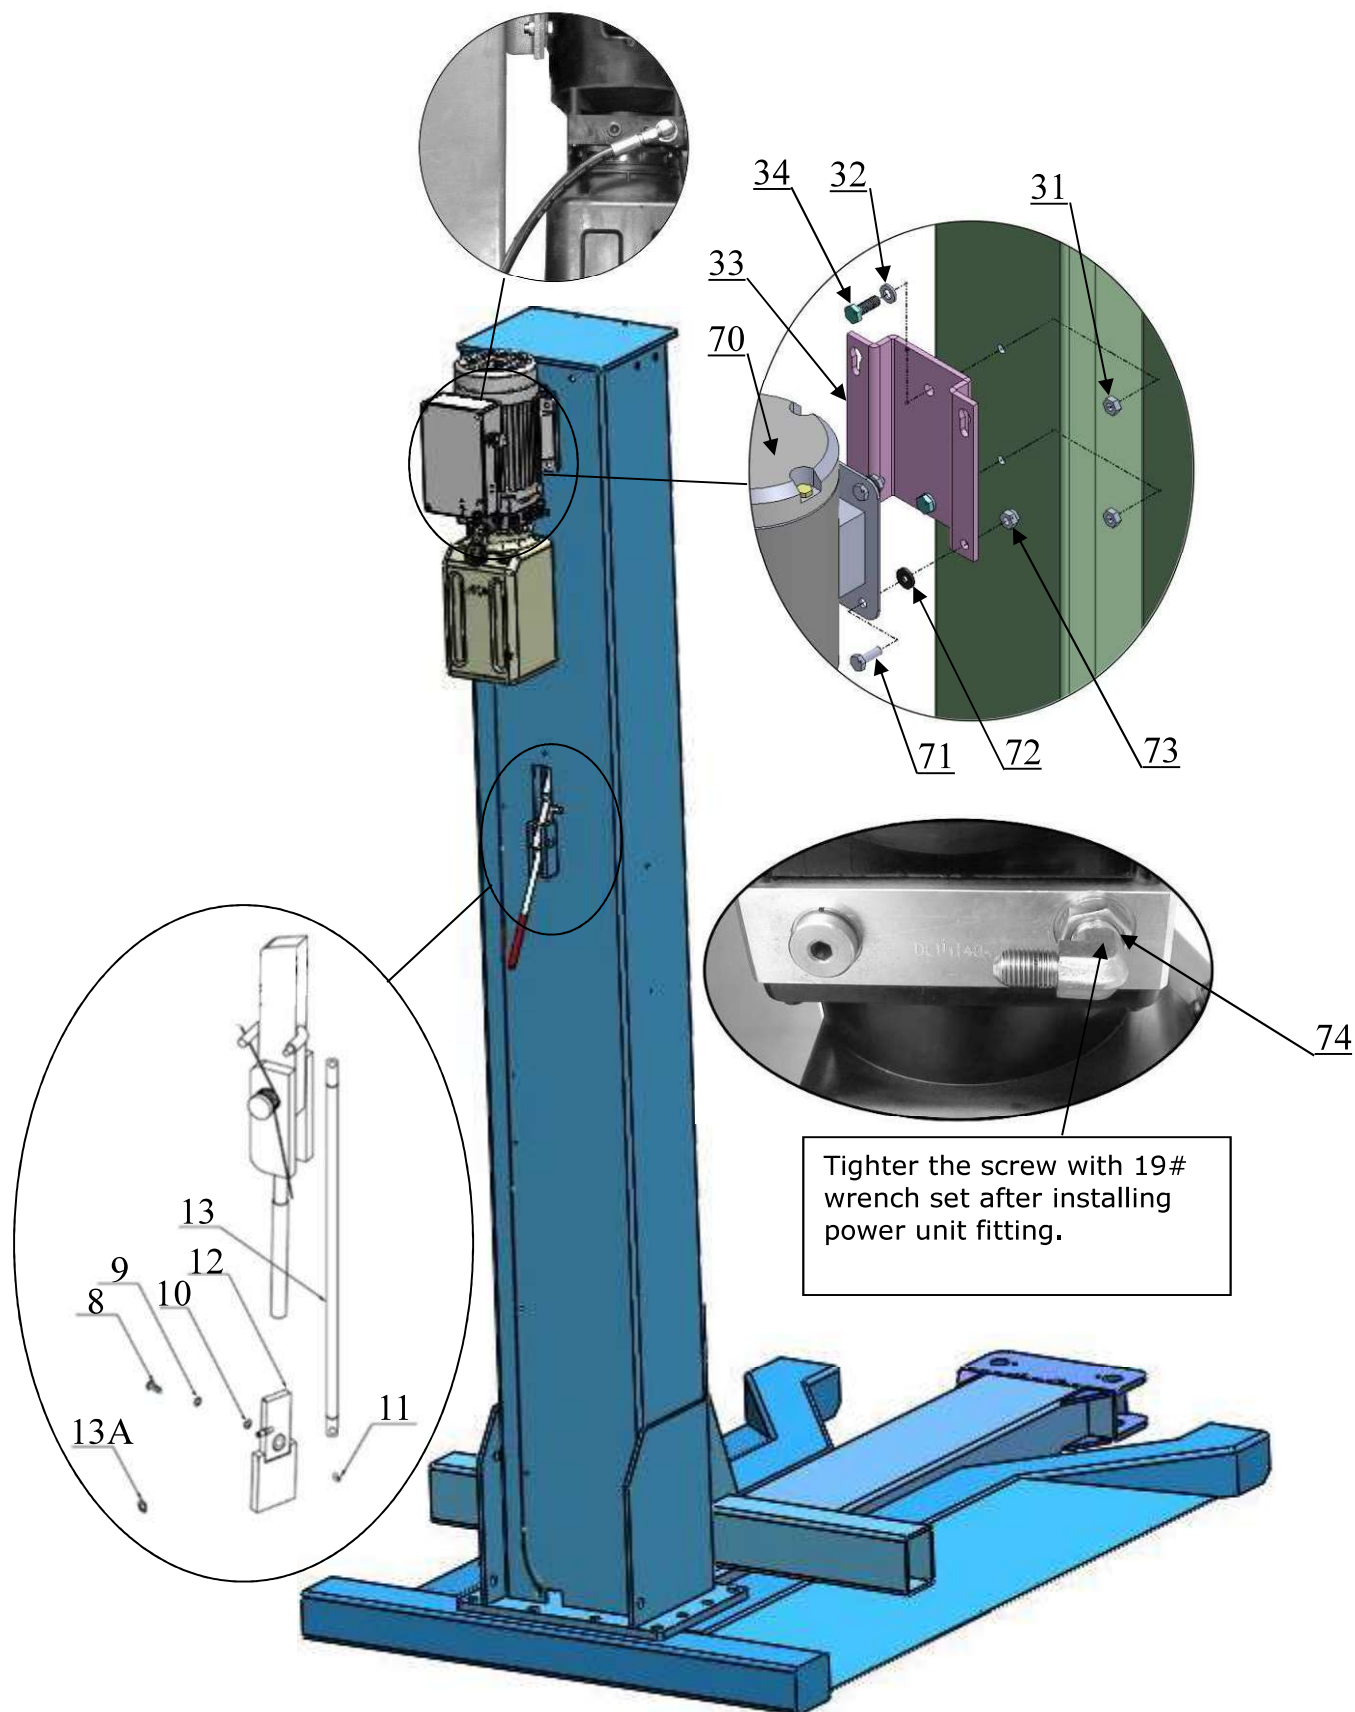

Fig.13
E. Install motor fixed plate, power unit and oil hose (See Fig.13)